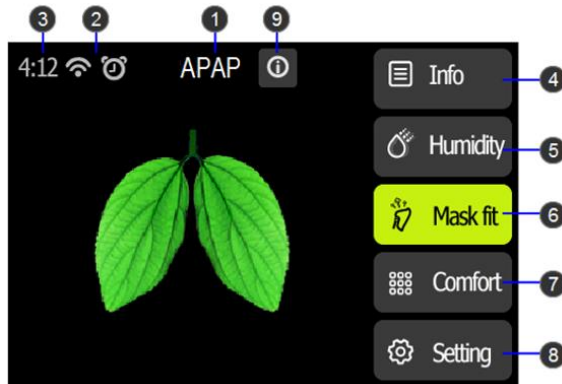

Figure1 Patient Standby Interface
1. Ensure power is supplied to the device. The SmartMed logo will appear for 5 seconds, followed by the patient standby screen (See Figure 1).